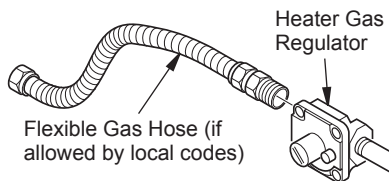
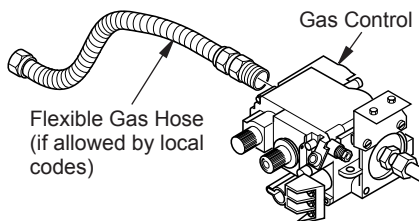

Figure 11 - Attaching Flexible Gas Hose to Heater Gas Regulator (Thermostatically-Controlled Models Only)
Figure 12 - Attaching Flexible Gas Hose to Heater Gas Regulator (Remote-Ready Models Only)
1. Apply pipe joint sealant lightly to male threads of gas fitting (provided). For Thermostatically-Controlled Models connect approved flexible gas hose to gas regulator of heater (see Figure 11). For Remote-Ready models connect approved flexible gas hose to inlet side of gas control (see Figure 12).
4. Disconnect gas line from heater base as shown in Figure 11 or 12, page 13.